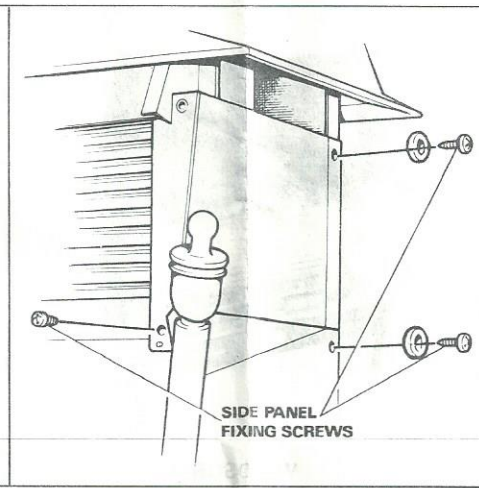

FIG. 5
4. Remove the control knob. Release the right-hand side panel by taking out the two pozidriv screws on the side and the one pozidriv screw on the front edge of the panel (Fig. 5). On fires with a log effect unit, the heat deflector plate must also be removed by undoing the screw in the front of the left-hand side panel before the right-hand side panel can be removed.